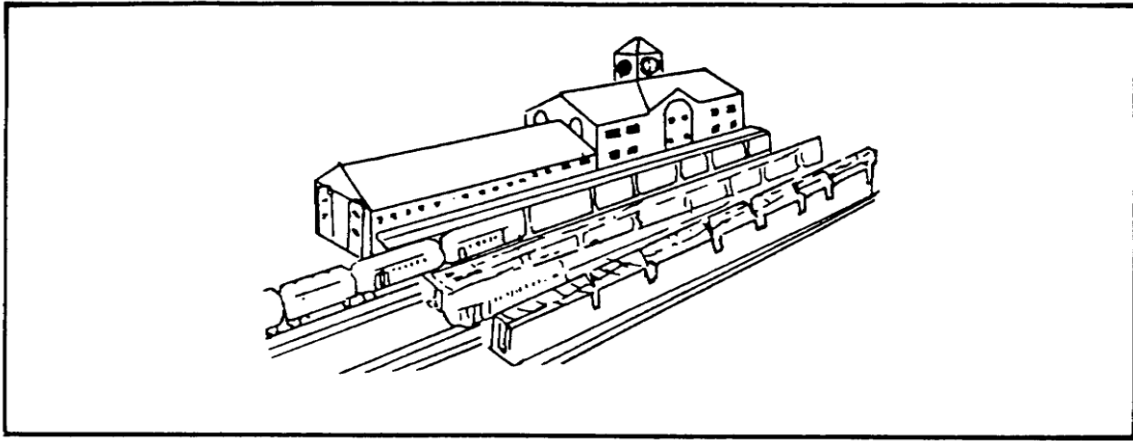

Figure 1-12. Through Passenger Station.
b. A through passenger station is normally covered and usually has a butterfly roof over the platforms so that precipitation drains towards the center. The platforms between the tracks may have an underground access to the terminal (Figure 1-12).